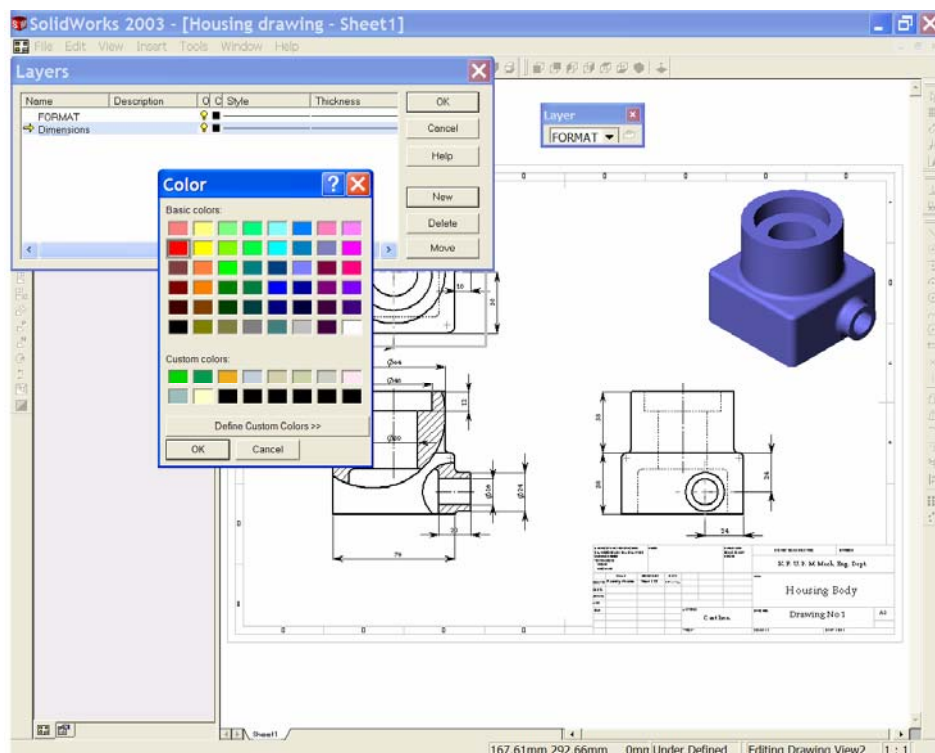

Figure 3
5. Create two more layers. One called '**Machine Symbols**' and the other called '**Tolerances**'. Give each layer a different colour. See Figure 3.